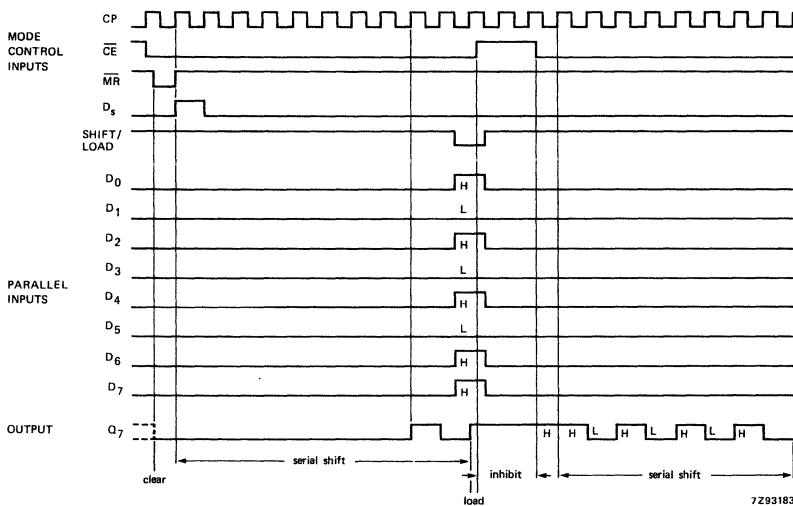

Fig. 6 Typical clear, shift, load, inhibit, and shift sequences.
Fig. 6 Waveforms showing the clock (CP) to output ( $Q_7$  or  $\bar{Q}_7$ ) propagation delays, the clock pulse width, the output transition times and the maximum clock frequency.
## Note to Figs 6 and 7